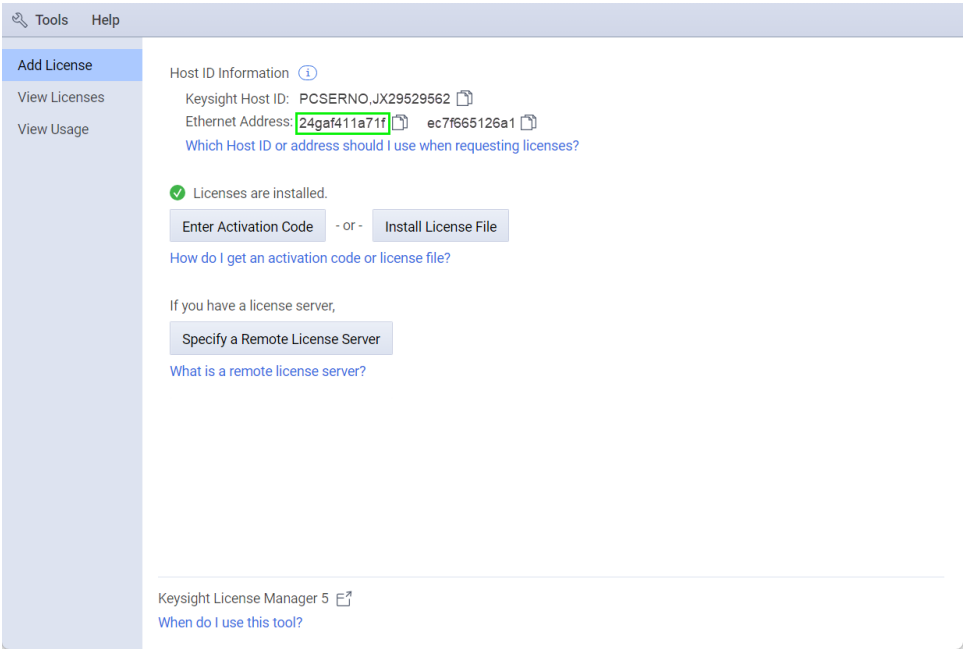

Figure 5 Viewing the Host ID
- 2 Copy the **Ethernet Address**, which is a set of alphanumeric values (as highlighted in **Figure 5**) that appears in the **Add License** tab of the application.